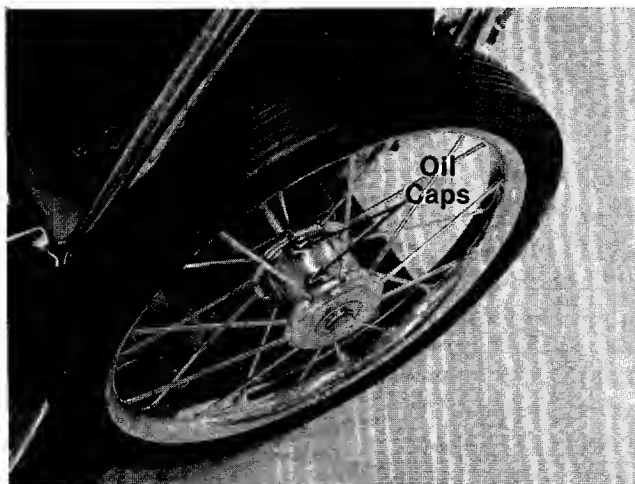

FIGURE 16.
**Wheels**—Unit is provided with ball bearing wheels. Lubricate at least once a season with light oil. To lubricate the rear wheels, remove the oil caps and add several drops of oil. See figure 16.